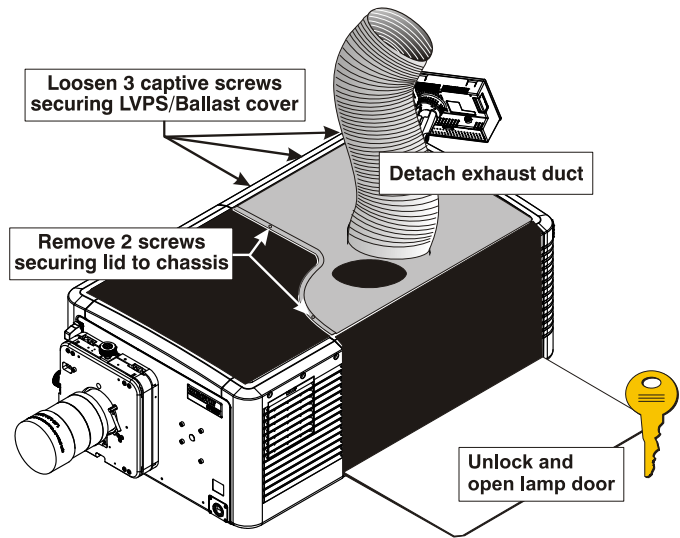

Figure 5-11 Rear Lid
3. Using a #2 Phillips™, remove the two captive screws securing the Rear Lid to the chassis (Figure 5-11).